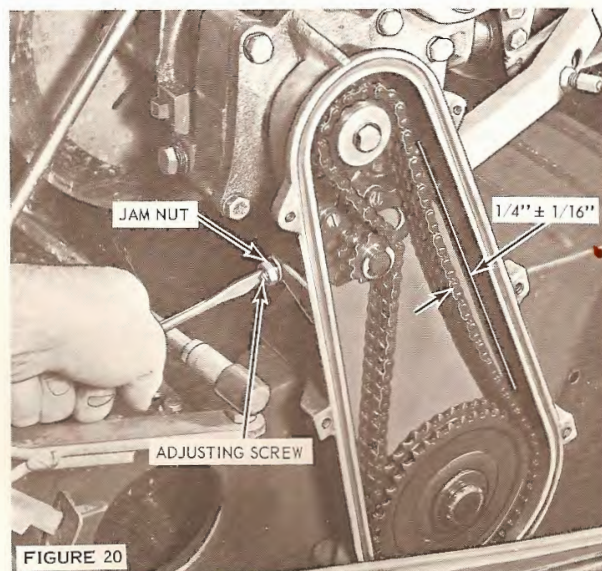

FIGURE 20
Check drive chain adjustment after the first ten hours of operation and thereafter every 50 hours of operation or as required. Total slack must be $1/4'' \pm 1/16''$ as shown in Figure 20. To measure this distance, first remove the
1. Loosen jam nut, see Figure 20.